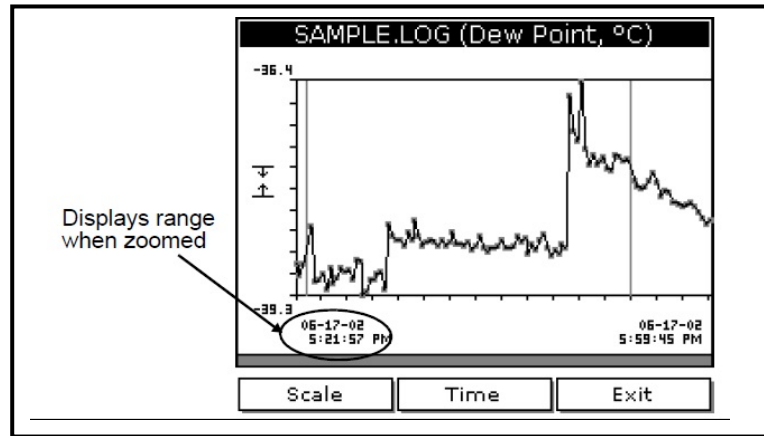

Figure 39: Log Graph Display Window
2. Press **[F3]**, View. A screen similar to *Figure 39* appears.
- To zoom in and out by 200%, press **[▼]** to zoom in and **[▲]** to zoom out. when zoomed, use the **[◀]** and **[▶]** keys to scroll through the graph. The screen displays the range when zoomed. See *Figure 39*.